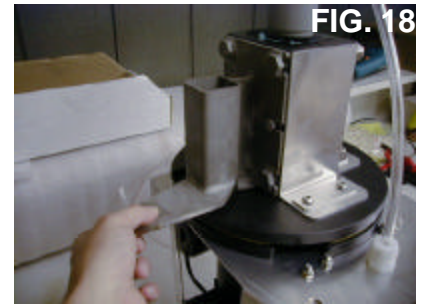

**FIG. 16**
**Note:** Some early production motors have been found to require bushing, lowers to be replaced. If you received replacement bushing, lowers they must be installed as seen in fig. 16, with thin side to the prop cage.